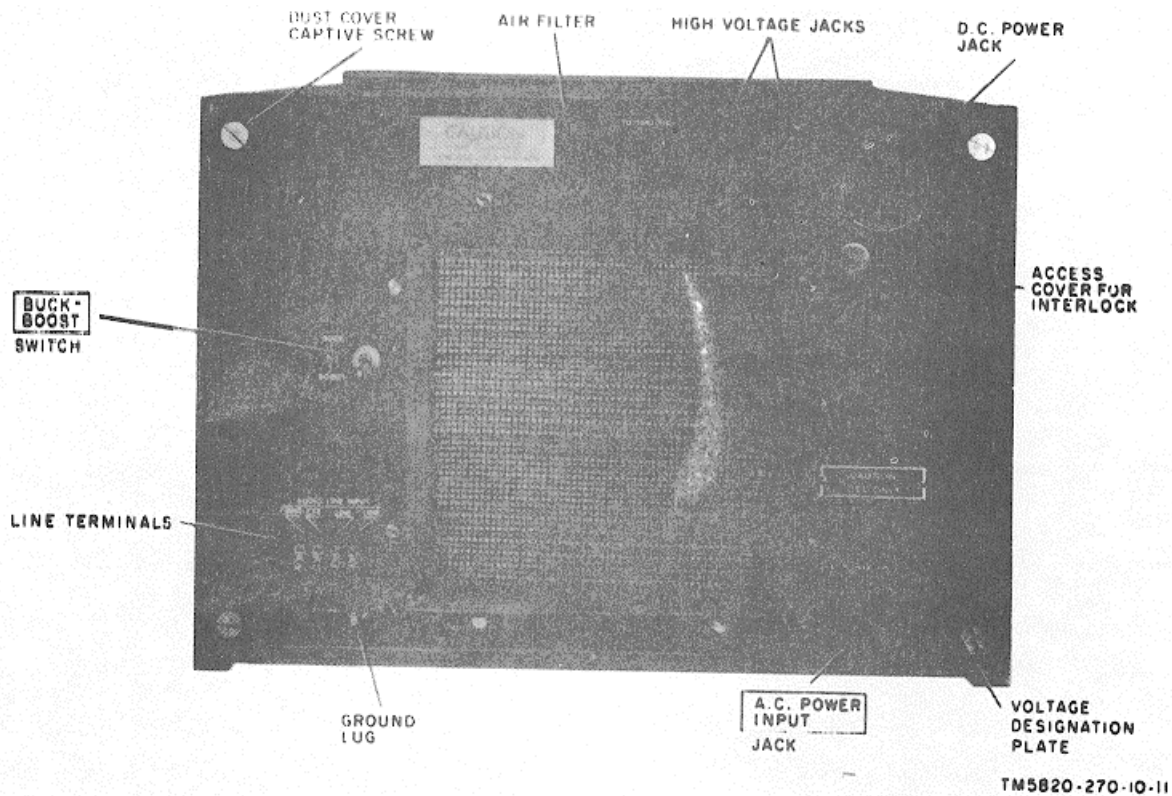

Figure 2-4. Modulator-Power Supply M-141(\*)/GR, rear panel
- b. Check to make sure that the line from the remote operating point is connected to the LINE terminals at the rear of the MID-141(\*)/GR (fig. 2-4).